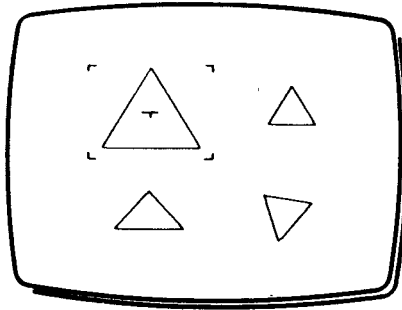

Fig 1
- 6 When you arrive at a library unit you wish to remove, press and release **T** to erase it, as in Fig 1.